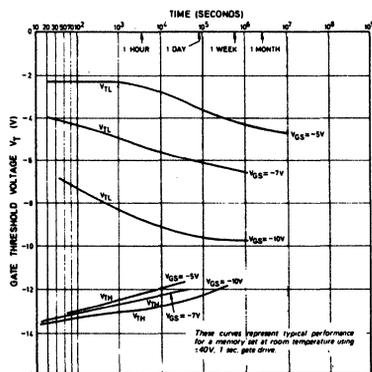

Fig. 8 Threshold voltage retention with continuously applied gate read voltages at $T_A = +25^\circ\text{C}$
3. Refer to Fig.5, which shows the available range of logic window as a function of time, and check that the minimum logic window determined in (2) above can be accommodated at the end of the desired storage period. If elevated temperatures are anticipated, reference should also be made to Fig.8.
If the read voltage is maintained on the gate of an MNOS transistor instead of being pulsed, then the V_{TL} decay rate will be substantially increased as shown by Fig.8. Sometimes it is convenient to operate a memory in this fashion, in which case the read voltage should be as low as possible, say, -5V and the data will remain stored and detectable for a few days only.